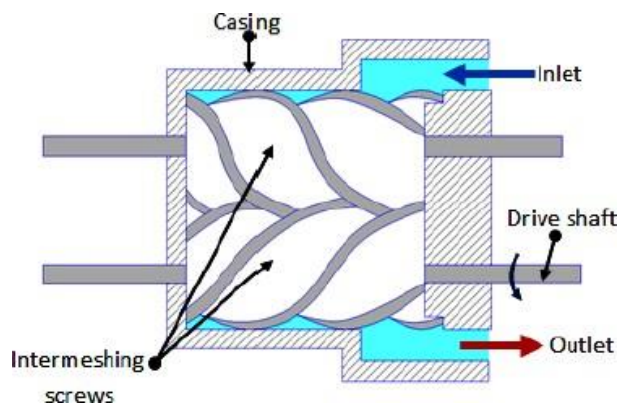

Fig.4.5 Twin screw compressors
- ▶ The construction features of a screw compressor are shown in *Fig.4.5*. The screw type compressor consists of two mating helically grooved rotors, one male and the other female. The male rotor drives the female rotor. The male rotor has lobes, while the female rotor has flutes.
- ▶ *Fig.4.5* shows screw compressor. When the male rotor rotates at 3600 RPM, female rotor rotates at 2400 RPM. The flow is mainly in the axial direction. Suction takes place as the rotors unmesh and delivery takes place as they mesh.